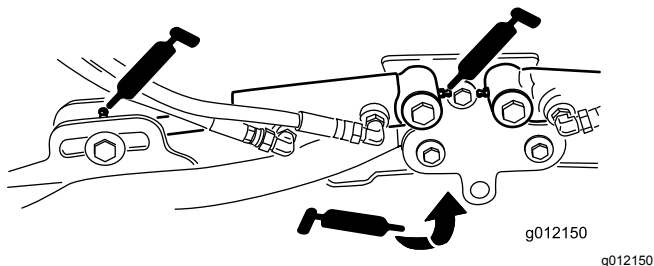

Figure 77
- Cutting-unit lift-arm cylinders (2 each) (Figure 77)
- Lift-arm pivots (1 each) (Figure 77)